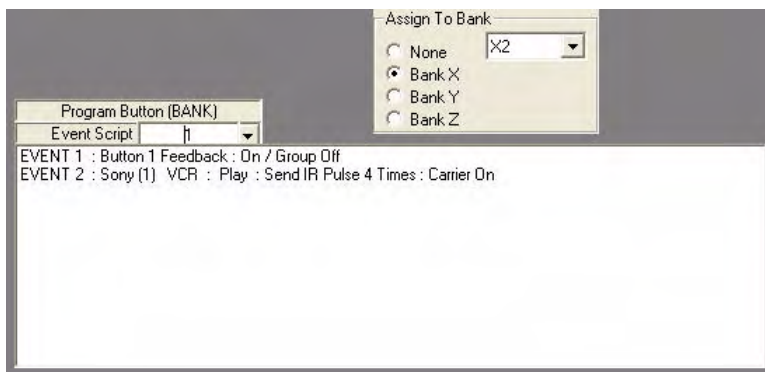

FIG. 64 Script for Bank X2 (VCR Play)
4. Select **X2** from the *Assign To Bank* drop-down menu and write a script (e.g. VCR play - FIG. 64).